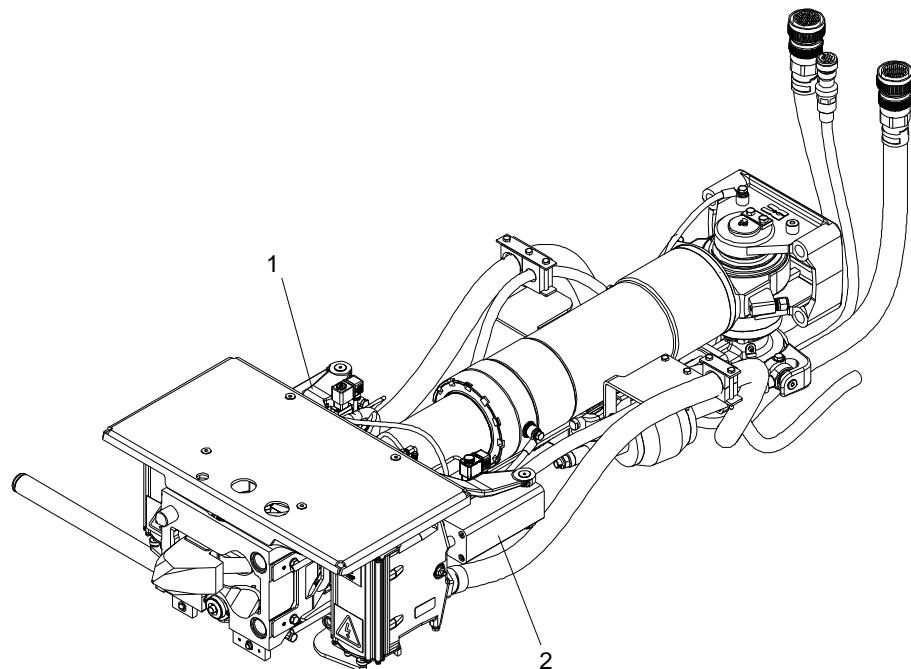

Figure 5-5: Inspect Electrical Coupler Actuator
1. Move electrical couplers backward and forward, check for missing parts and that electrical coupler actuators (1 and 2) operates smoothly. See Figure 5-5.